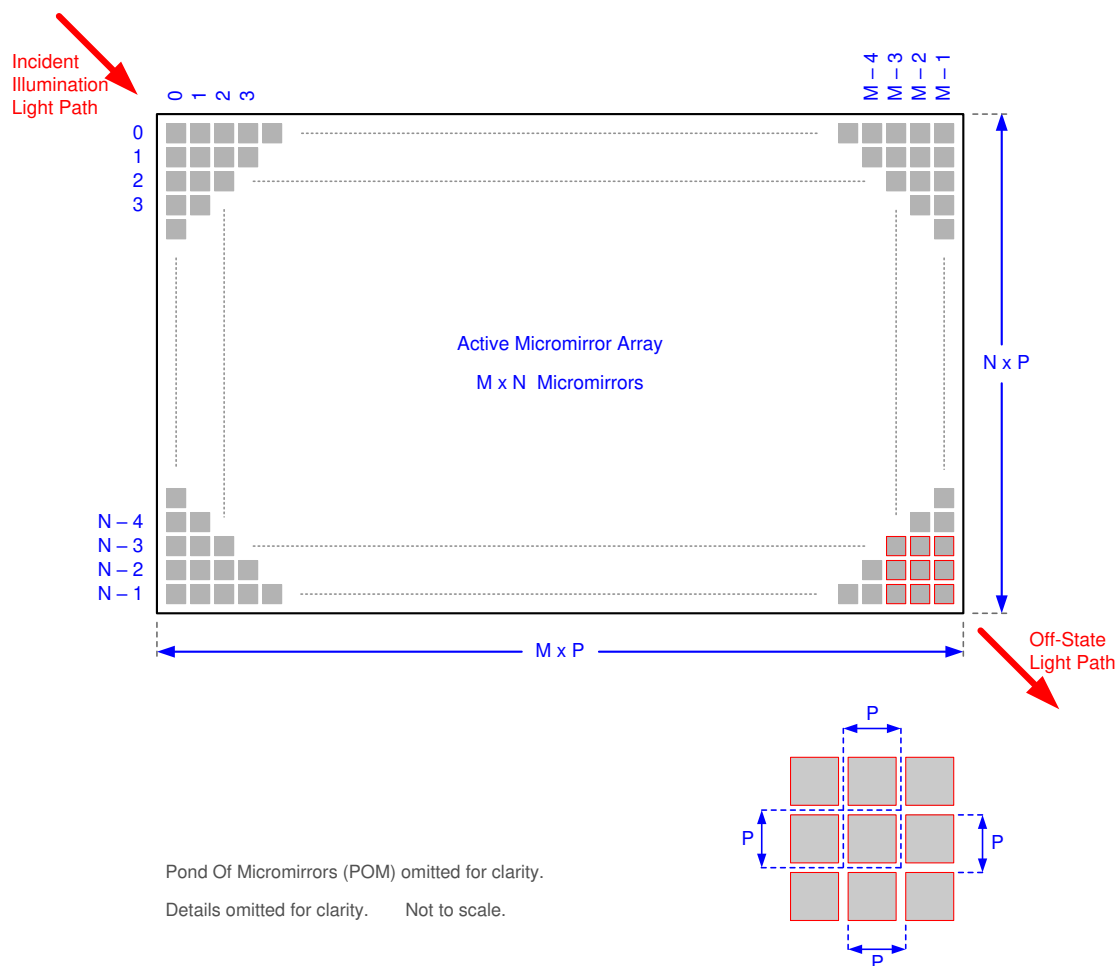

Figure 6-15. Micromirror Array Physical Characteristics
(1) See Figure 6-15.
(2) The structure and qualities of the border around the active array includes a band of partially functional micromirrors called the POM. These micromirrors are structurally and/or electrically prevented from tilting toward the bright or ON state, but still require an electrical bias to tilt toward OFF.